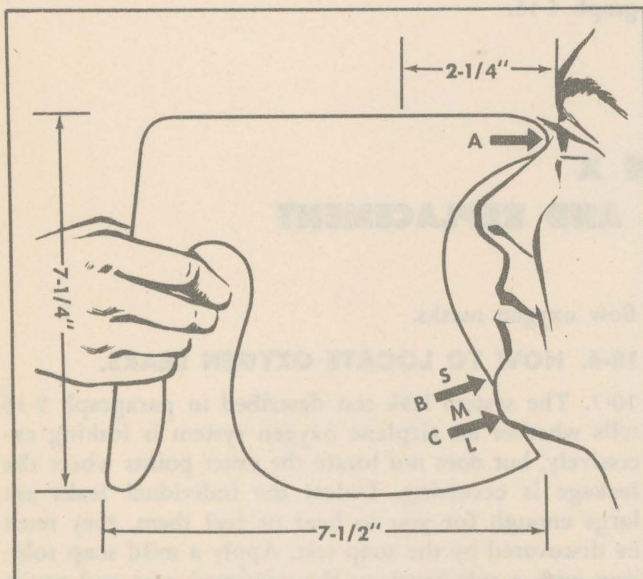
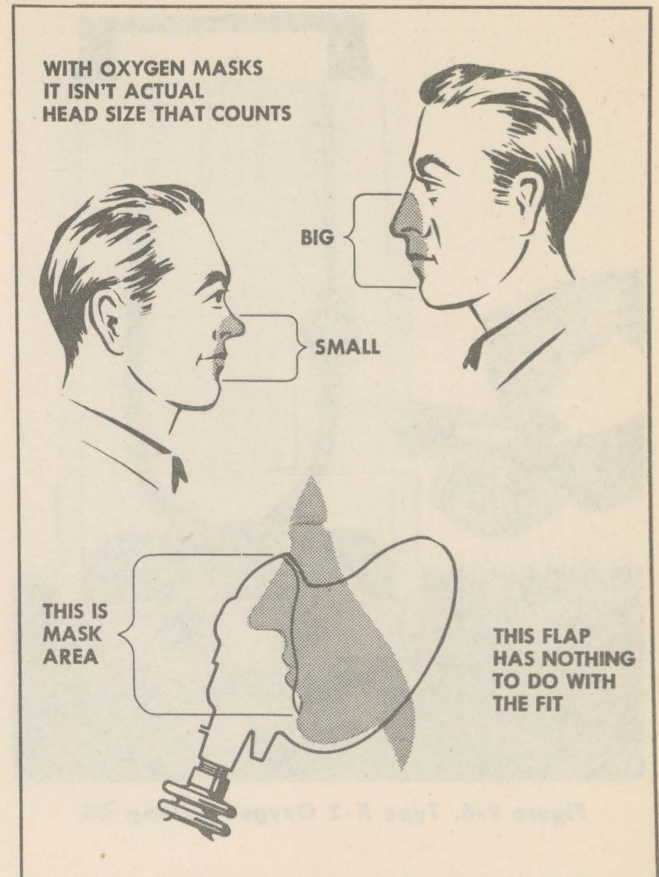

Figure 9-4. Mask Sizing Template
Figure 9-5. Relation of Mask Size to Head Size
a. Be sure that a mask of the correct size has been issued. Figure 9-4 shows how to select a mask of the right size by using a template for measuring the flyer's face. By following the dimensions in the figure, you can make the template for yourself. Find the mask size by noting where the tip of the flyer's chin bone strikes the marked portion of the template. Figure 9-5 shows that the size of man's head is not necessarily an indica-